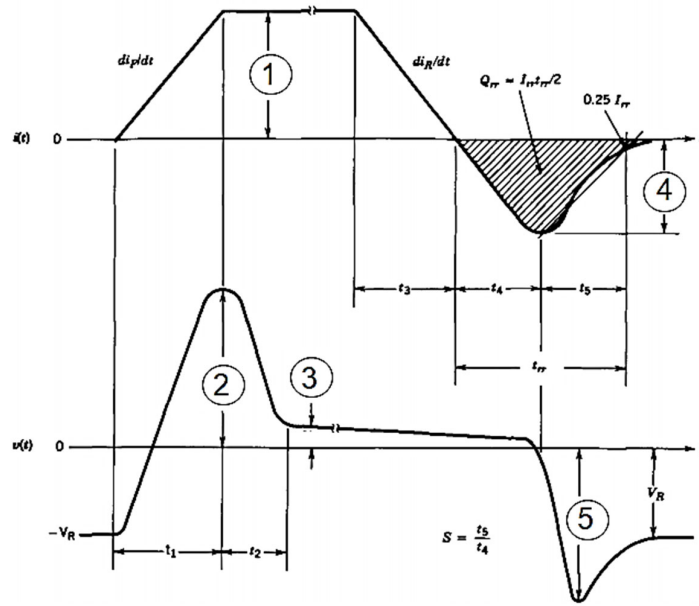

Figure Q1-c
- d. Figure Q1-d shows a thyristor rectifier T which is powered by the main voltage supply u_2 and switch-controlled gate voltage supply E_g .